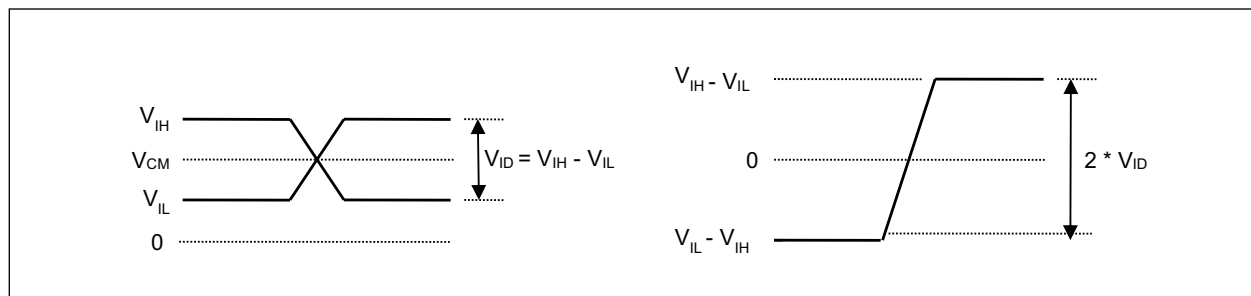

FIGURE 4-1: Differential Input Voltage Levels.
- Note 4:** Input differential voltage is calculated as $V_{ID} = V_{IH} - V_{IL}$ where V_{IH} and V_{IL} are input voltage high and low respectively. It should not be confused with $V_{ID} = 2 \times (V_{IH} - V_{IL})$ used in some data sheets. Please refer to Figure 4-1.